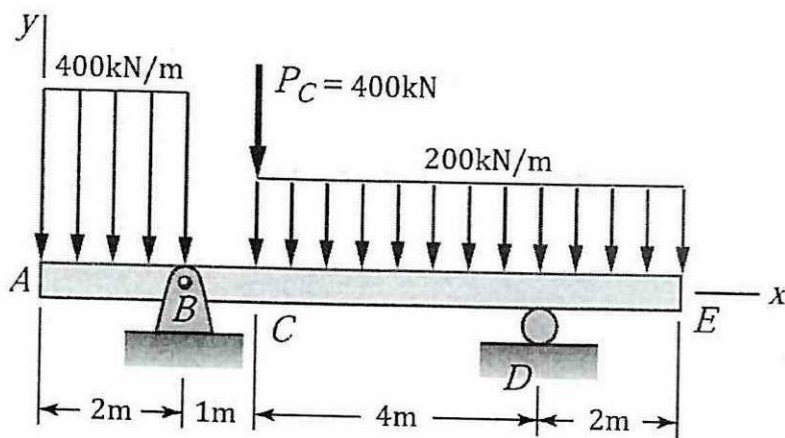

Figure Q2(b)
- Q2** (a) A beam is a structural member resting on supports to carry vertical loads. State **four (4)** aspects that will affect the bending behaviors of the beam. (4 marks)
- (b) The overhanging beam in **Figure Q2(b)** carries two uniformly distributed loads and a concentrated load. Determine: